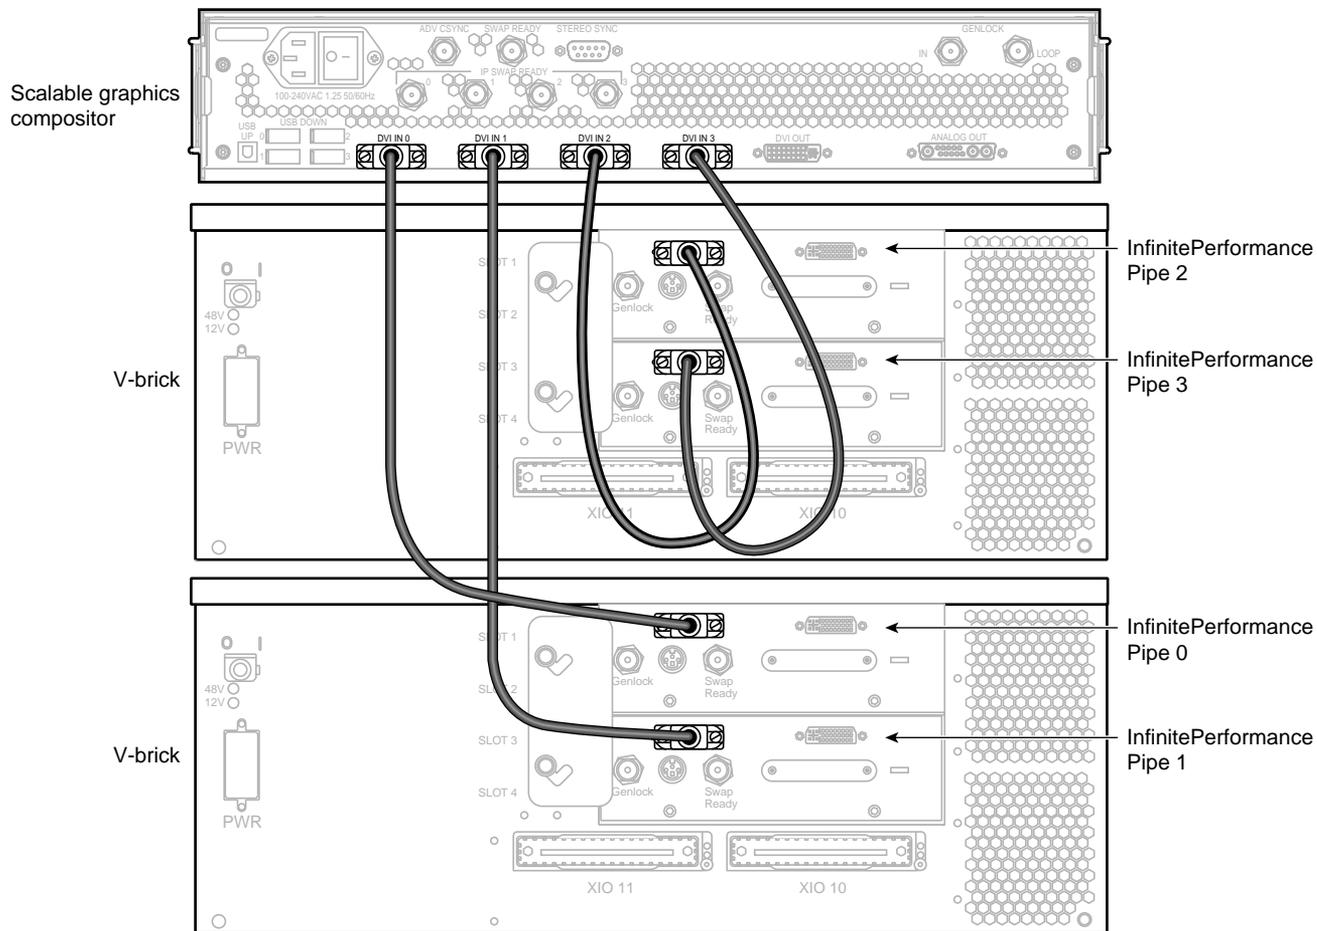

Figure 2-11 Connecting the DVI Connectors
4. Using DVI single-link cables, connect the leftmost DVI connectors of the InfinitePerformance pipes to the compositor DVI connectors in the following order (as shown in Figure 2-11):